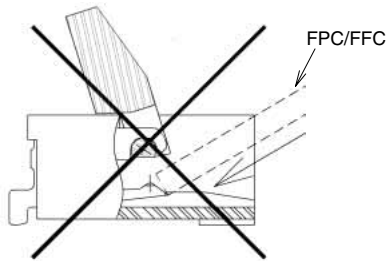

Fig.5
- ② Make sure that the FPC/FFC does not rub against the insertion slot or the contacts (Fig. 5).